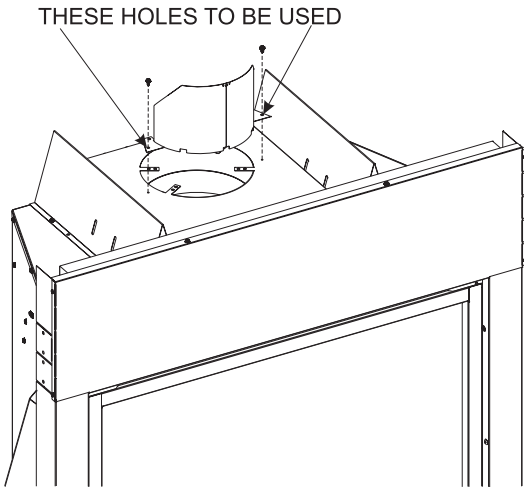

Figure 43
2. Attach to insulation box as shown in Figure 43.